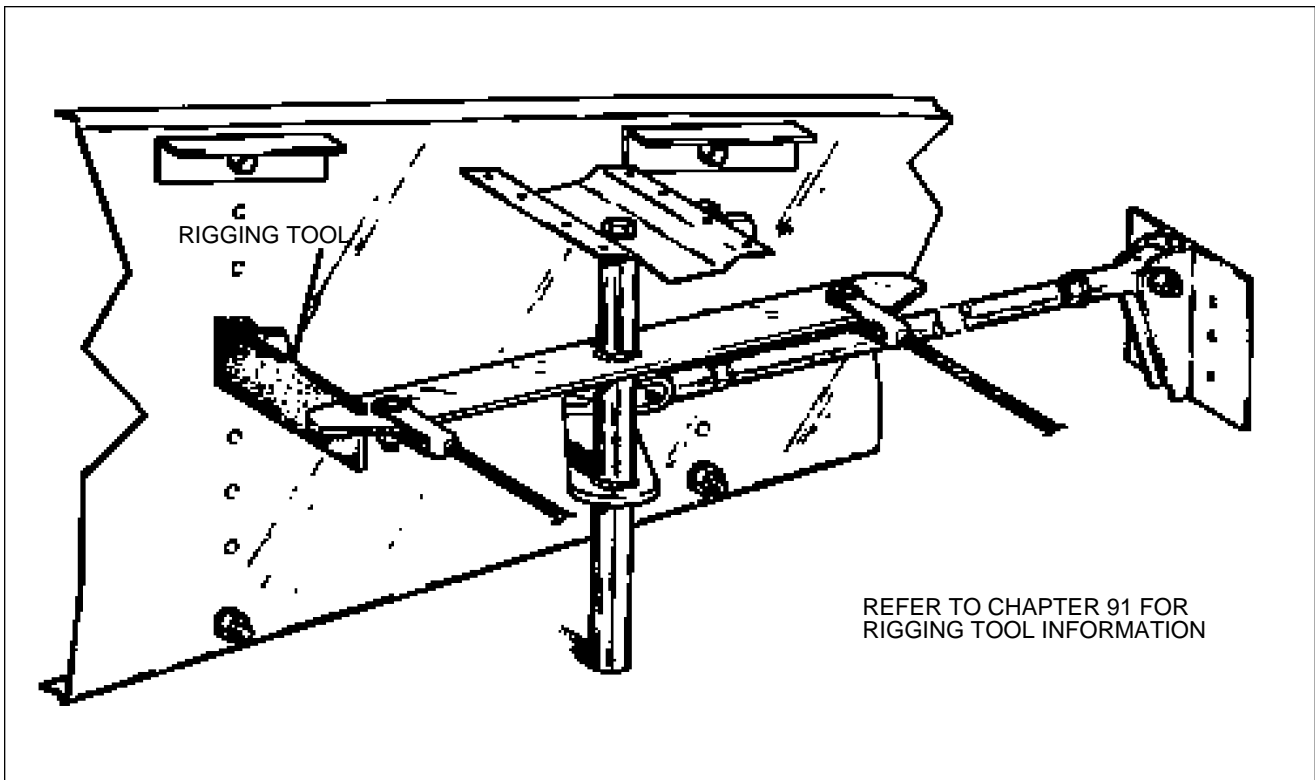

Figure 27-11. Aileron Bellcrank Rigging Tool Utilization
3. With the aileron bellcrank in its neutral position, install the bellcrank rigging tool. The neutral position of the bellcrank occurs when the center of both of the cable connection holes are at an equal distance from the adjustment inboard wing ribs. (Refer to Figure 27-11 for installation.)